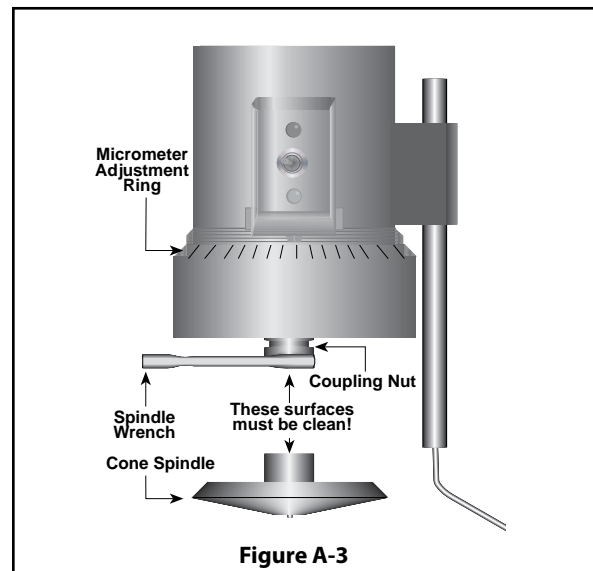

Figure A-3
4. With the motor off, thread the cone spindle by using the spindle wrench to secure the viscometer coupling nut (see **Figure A-3**); gently push up on the coupling nut and hold this securely with the wrench. Thread the cone spindle by hand.